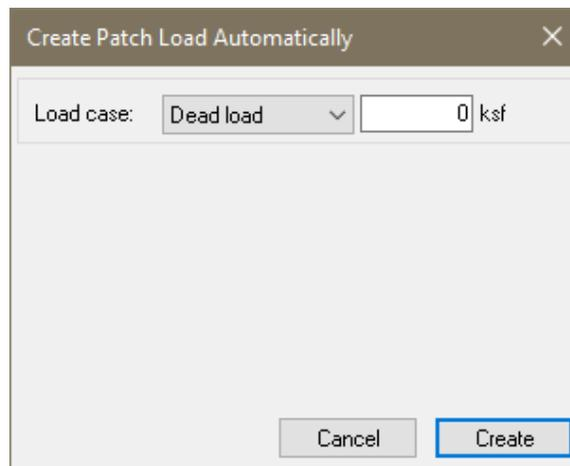

Figure 4-11
- Go to *Loading* → *General* and click on the *Patch Load Wizard* icon. This will open the *Create Patch Load Automatically* dialog window shown in **FIGURE 4-11**.